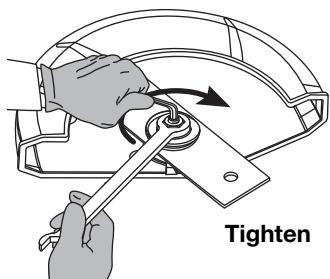

Fig. 21
5. While holding the Allen wrench in the spindle hole, tighten the nut by turning the wrench clockwise until tight (Fig. 21).